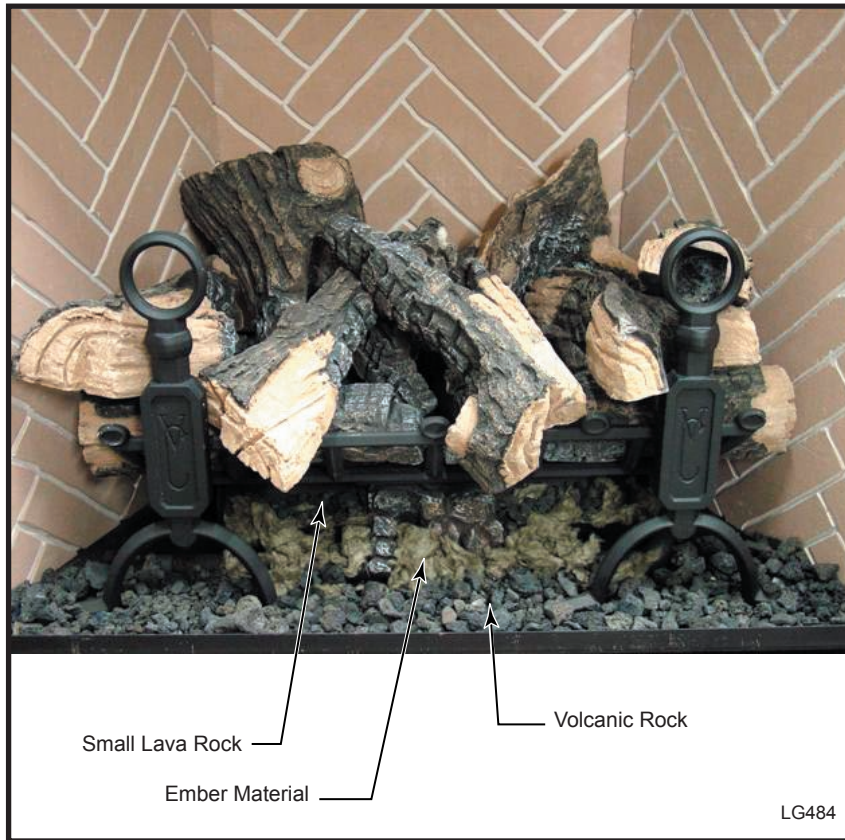

Fig. 48 DVT38IN logset complete.
3. **Position the Andirons.** Set the andirons in place by hooking the tabs on the back of the andiron over the outermost web of the fettle. (Figs. 48 & 49)
4. **Place the Volcanic Rock.** Place the volcanic rocks over the hearth refractories in front of the burner tube and around the burner assembly as desired. (Figs. 48 & 49)
5. **Place the Small Lava Rock.** Place the small lava rock approximately 1½" (38 mm) wide behind the lip mounted to the burner housing. Place ember material lightly directly behind the lava rock and the overlay. (Figs. 48 & 49)
6. **Place the Ember Material.** Place the ember material in front and around the burner tube and behind the burner tube in front of the burner housing. Build up the ember material lightly over the burner tube into the burner housing to cover up the burner tube and the lip mounted to the front of the burner housing. (Figs. 48 & 49) **NOTE: Placing platinum ember material is mandatory for proper carry over of flame into the burner tube.**
**NOTE:** Refer to Figures 48 and 49 for complete logset.